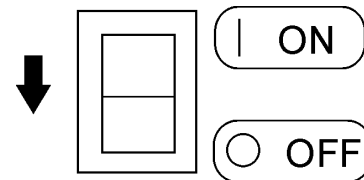

Figure 23. Idle Control Switch (Off)
- Place the **idle control switch** (Figure 23) in the **OFF** position.